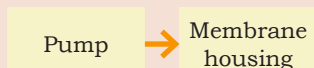

Fig. 5.45
5. Now, outlet of pump is connected to the inlet of the membrane housing as shown in Fig. 5.45.